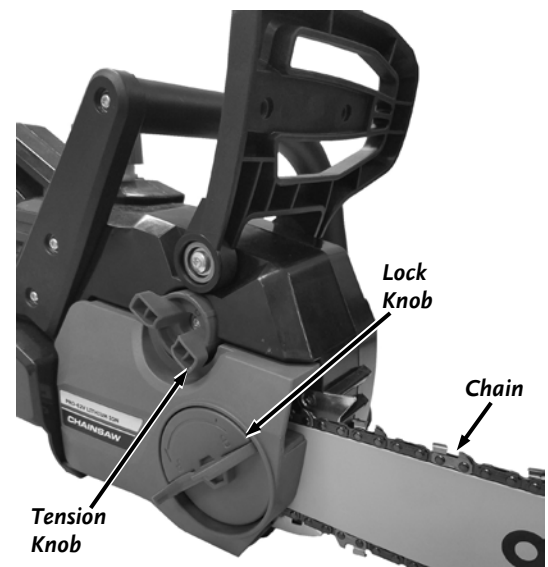

Figure 24
1. Loosen the Lock Knob by turning it counter clockwise to unlock the Bar and Chain (**Figure 24**).